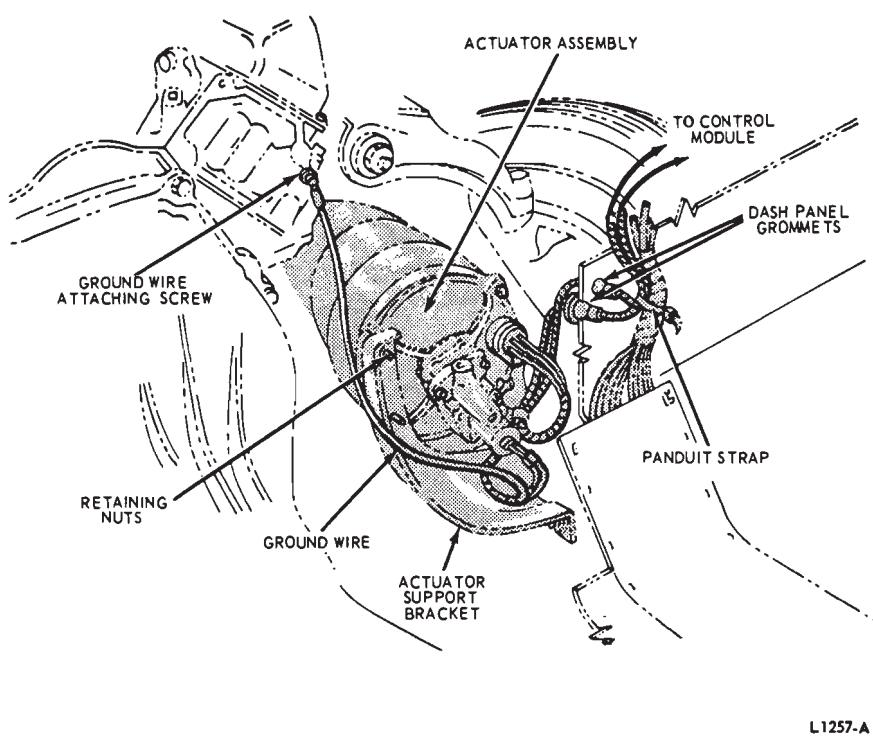

FIG. 10—Actuator Assembly Installation
tors through the openings in the dash panel (Fig. 10).
8. Remove the bolt retaining the actuator ground wire to the rear outer corner of the engine right bank (Fig. 10).